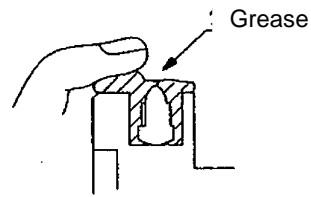

Fig. 9 Piston seal
2. Piston seal (Fig. 9)
Mount with care not to twist the piston seal. Apply grease to the seal groove and outer circumference by rubbing grease into them as shown in Fig. 9.